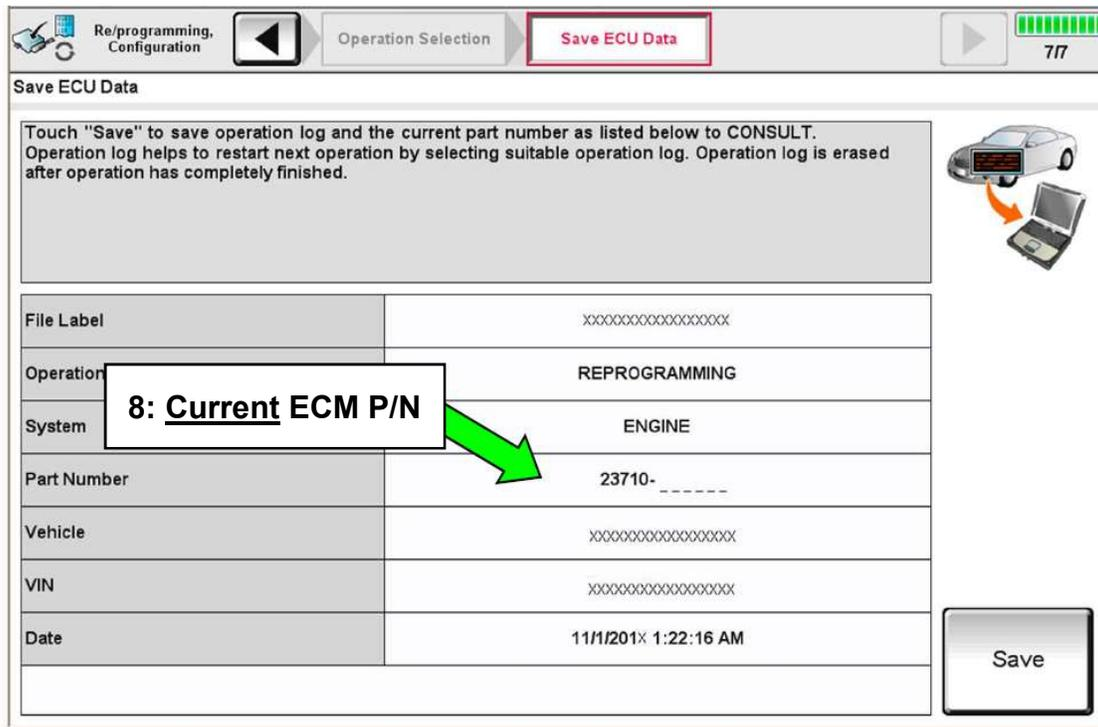

Figure 3
8. Follow the on-screen instructions and navigate the C-III plus to the screen shown in Figure 3.